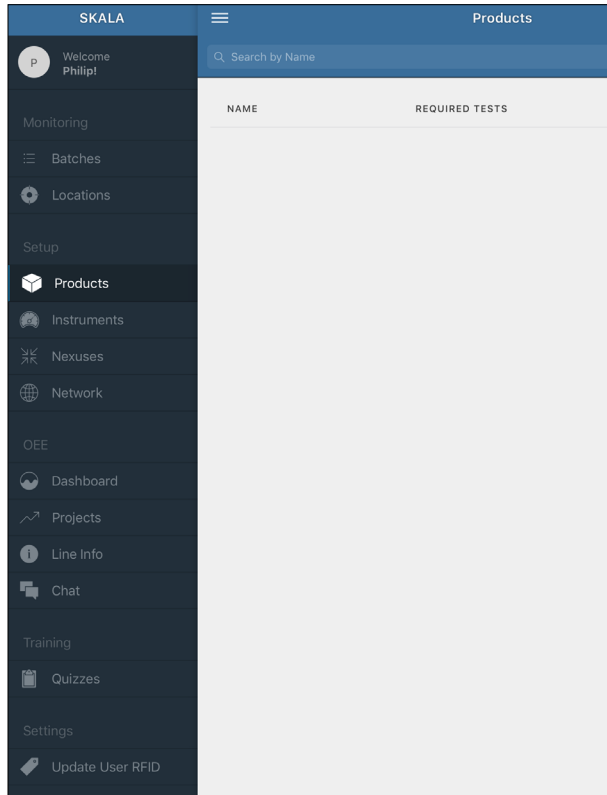

Figure 32 Products option in Main menu
2. Select Products under Setup to open the Products window (Figure 32).
3. Select the plus symbol on the Products screen to add a new Product (Figure 32).